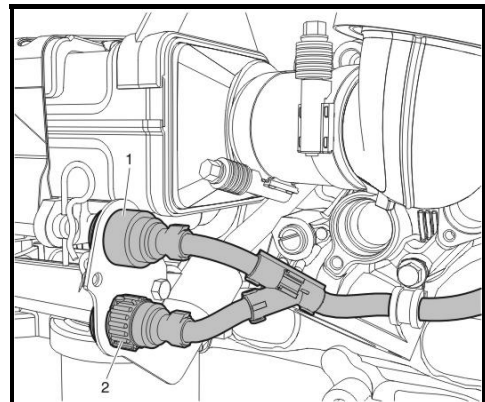

FIGURE 26
19. Connect the engine harness connections on the hot side of the engine. Install nylon cable ties and P-clamps as necessary (fig. 26).